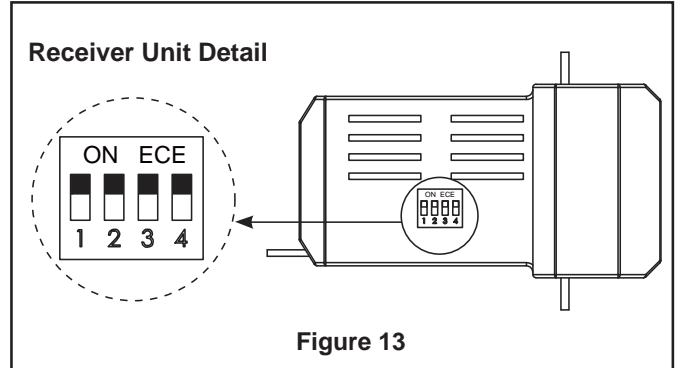

Figure 13
2. To set the receiver unit code, slide code switches to the same positions as set on your transmitter (Figure 13).